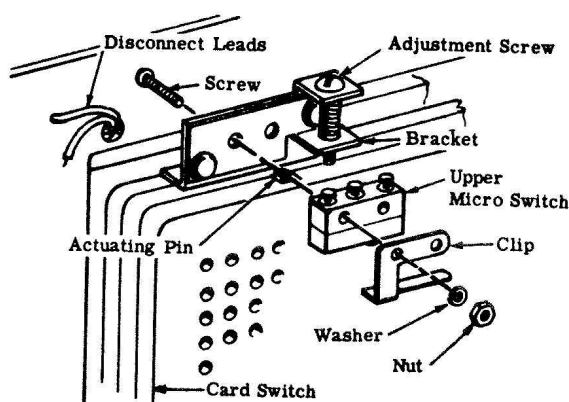

Figure 19. Replacement of Upper Micro Switch
6.20 Replacement of Upper Micro-Switch. (See figure 19). Unsolder leads from terminals on micro-switch. Remove nuts, washers and screws securing micro-switch to bracket. Remove micro-switch. Exercise care not to lose small actuating pin in card switch. Install new micro-switch in reverse order of removal procedure.